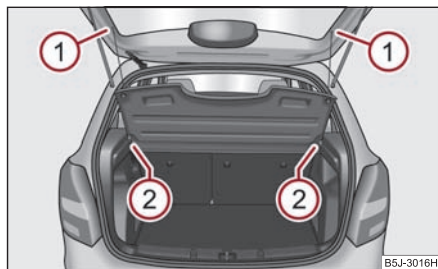

Fig. 77 Removing the luggage compartment cover
- Unhook the support straps on the boot lid ① ⇒ fig. 77.
- Remove the luggage compartment cover from the holders ② either by pulling to the rear or with adequate blows to the bottom side of the luggage compartment cover in the area between the holders.
- To re-install, place the luggage compartment cover on the contact surfaces of the side trim panels and press the luggage compartment cover into the holders ② by pushing forward and then hang the support straps ① on the tailgate.